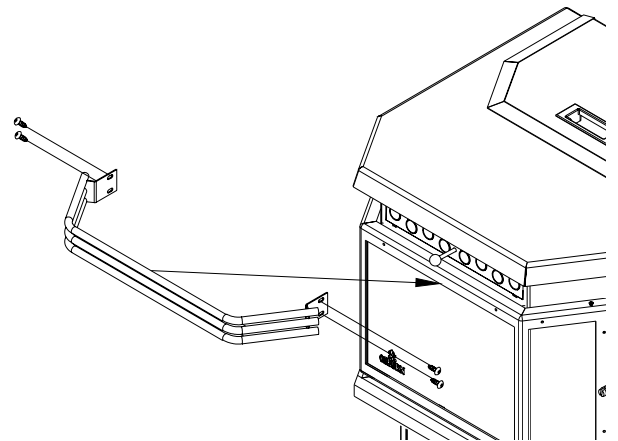

Figure 14
- 8- Secure the louvers in front of the heat exchanger with the four screws supplied. (Figure 14)